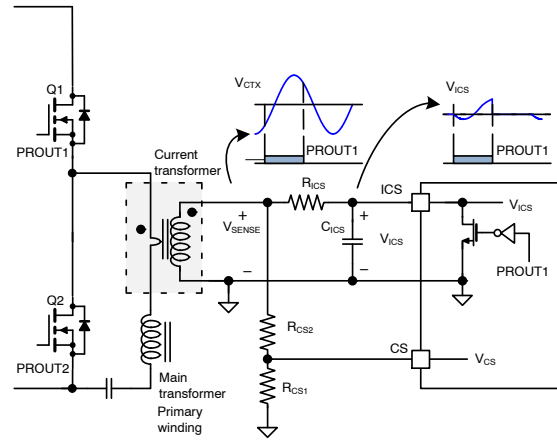
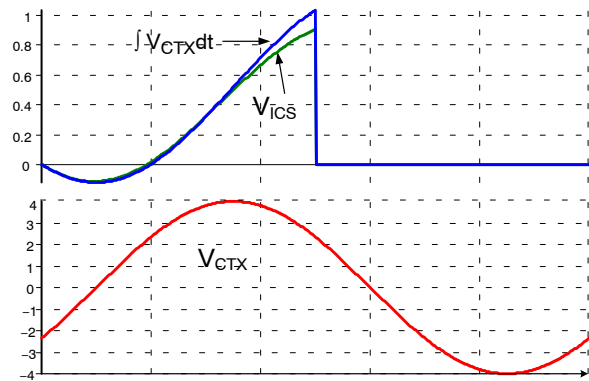

Figure 61. Current Sensing of NCV4390
Figure 62. Disable PWM mode with COMP Voltage
NCV4390 senses instantaneous switch current and the integral of the switch current as illustrated in Figure 61. Since NCV4390 is located in the secondary side, it is typical to use a current transformer for sensing the primary side current. While the PROUT1 is LOW, the ICS pin is clamped at 0 V with an internal reset MOSFET. Conversely, while PROUT1 is high, the ICS pin is not clamped and the integral capacitor (CICS) is charged and discharged by the voltage difference between the sensing resistor voltage (VSENSE) and the ICS pin voltage. During normal operation, the voltage of the ICS pin is below 1.2 V since the power limit threshold is 1.2 V. The current sensing resistor and current transformer turns ratio should be designed such that the voltage across the current sensing resistor (VSENSE) is greater than 4 V at the full load condition. Therefore the current charging and discharging CICS should be almost proportional to the voltage across the current sensing resistor (VSENSE). Figure 62 compares the VICS signal and the ideal integral signal when the amplitude of VSENSE is 4 V. As can be seen, there is about 10% error in the VICS signal compared to the ideal integral signal, which is acceptable for most designs. If more accuracy of the VICS is required, the amplitude of VSENSE should be increased.
2. Over-Current Protection (OCP2): When  $V_{CS}$  is higher than 3.5 V or lower than -3.5 V, over-current protection (OCP2) is triggered. The instantaneous primary side current is also sensed on CS pin. Since the OCP2 thresholds on the CS pin are 3.5 V and -3.5 V as shown in Figure 66, the CS signal is typically obtained from  $V_{SENSE}$  by using a voltage divider as illustrated in Figure 61. 150 ns debounce time is also added for OCP2